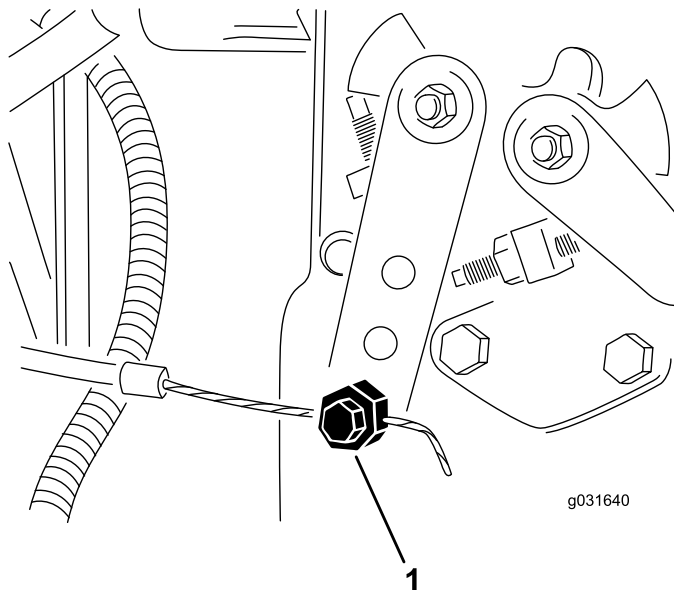

Figure 61
2. Loosen the throttle-cable connector on the injection-pump-lever arm (Figure 61).